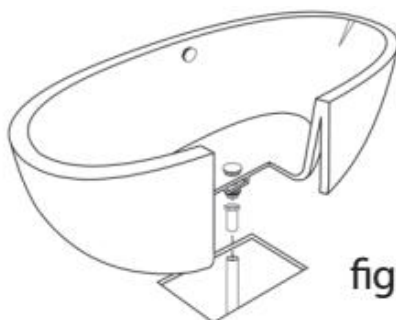

figure 13
18. Carefully set tub into position (figure 13) and connect the drain hardware (previously installed). Finish the installation of the tail-piece installation.